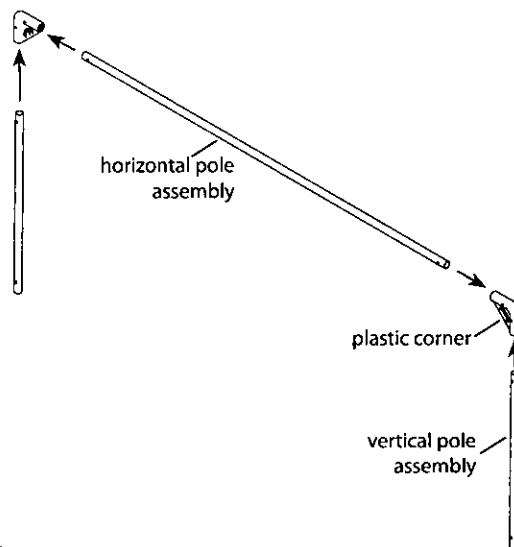

Figure 6
1. Insert (3) 57.21" horizontal assembly poles (68188) into (6) plastic corner pieces (68175) by lining up snap button with snap button holes in plastic corner pieces. Snap into place. Pole will have a snug fit and may shave some interior plastic off. This is by design for a good fit. **SEE FIGURE 6.**
2. Insert (6) 24" vertical assembly poles (68184) into the previously assembled horizontal pole/plastic corner assemblies by lining up snap button with the snap button holes in plastic corner pieces. Snap into place. Poles will have a snug fit and may shave some interior plastic off. This is by design for a good fit. **SEE FIGURE 6.**
1. Insert (3) 70.02" horizontal assembly poles (68190) into (6) plastic corner pieces (68175) by lining up snap button with snap button holes in plastic corner pieces. Snap into place. Pole will have a snug fit and may shave some interior plastic off. This is by design for a good fit. **SEE FIGURE 6.**
2. Insert (6) 27.76" vertical assembly poles (68186) into the previously assembled horizontal pole/plastic corner assemblies by lining up snap button with the snap button holes in plastic corner pieces. Snap into place. Poles will have a snug fit and may shave some interior plastic off. This is by design for a good fit. **SEE FIGURE 6.**